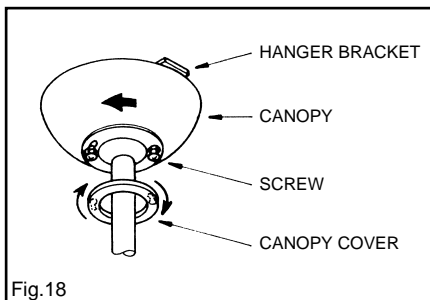

Fig.18
**NOTE:**Adjust the canopy screws as necessary until the canopy and canopy cover are snug. (Fig. 18)